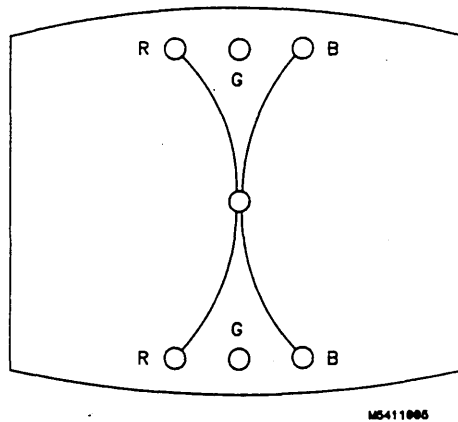

Figure 4-19. Y BOW Adjustment.
2. Adjust Y BOW (RV805), located on bottom PC board, to eliminate red, green, and blue bowing at top and bottom of center vertical line (see figure 4-19).